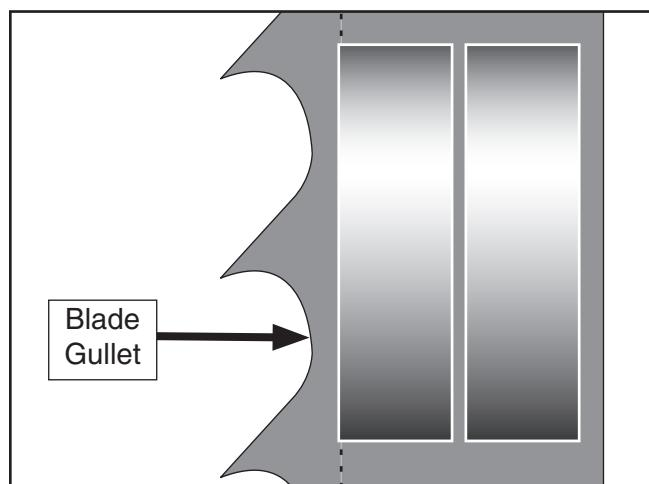

Figure 33. Lateral adjustment of blade guides.
- Loosen the cap screw on the lateral adjustment rod and adjust the blade guides until the edges of the bearings are $1/16$ " behind the blade gullets as illustrated in **Figure 33**.